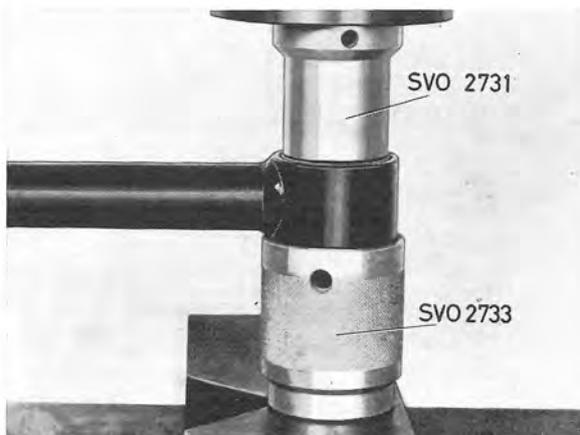
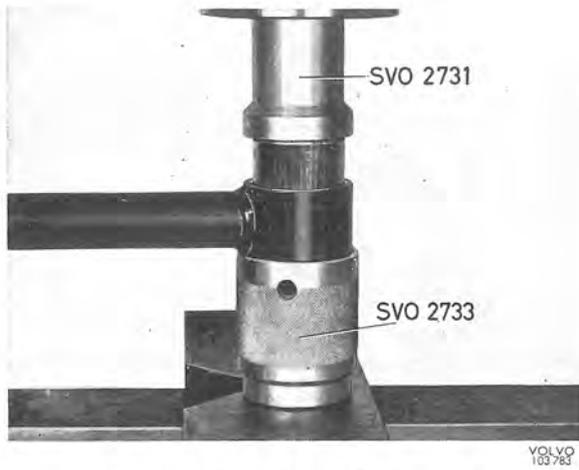

Fig. 7-13. Removing the large bush, track bar
Fig. 7-14. Fitting the large bush, track bar
4. If necessary, press out the small bushes with SVO 2730 using SVO 2733 as a counterhold. (Fig. 7-13). Pressing in the bushes can be done with the same tools only in this case SVO 2730 is reversed (Fig. 7-14).